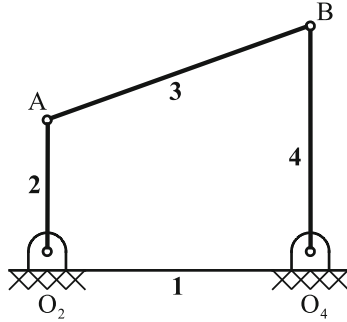

Fig. 2.58 Four-link mechanism
22. What equation is correct for the four-bar mechanism in Fig. 2.58?